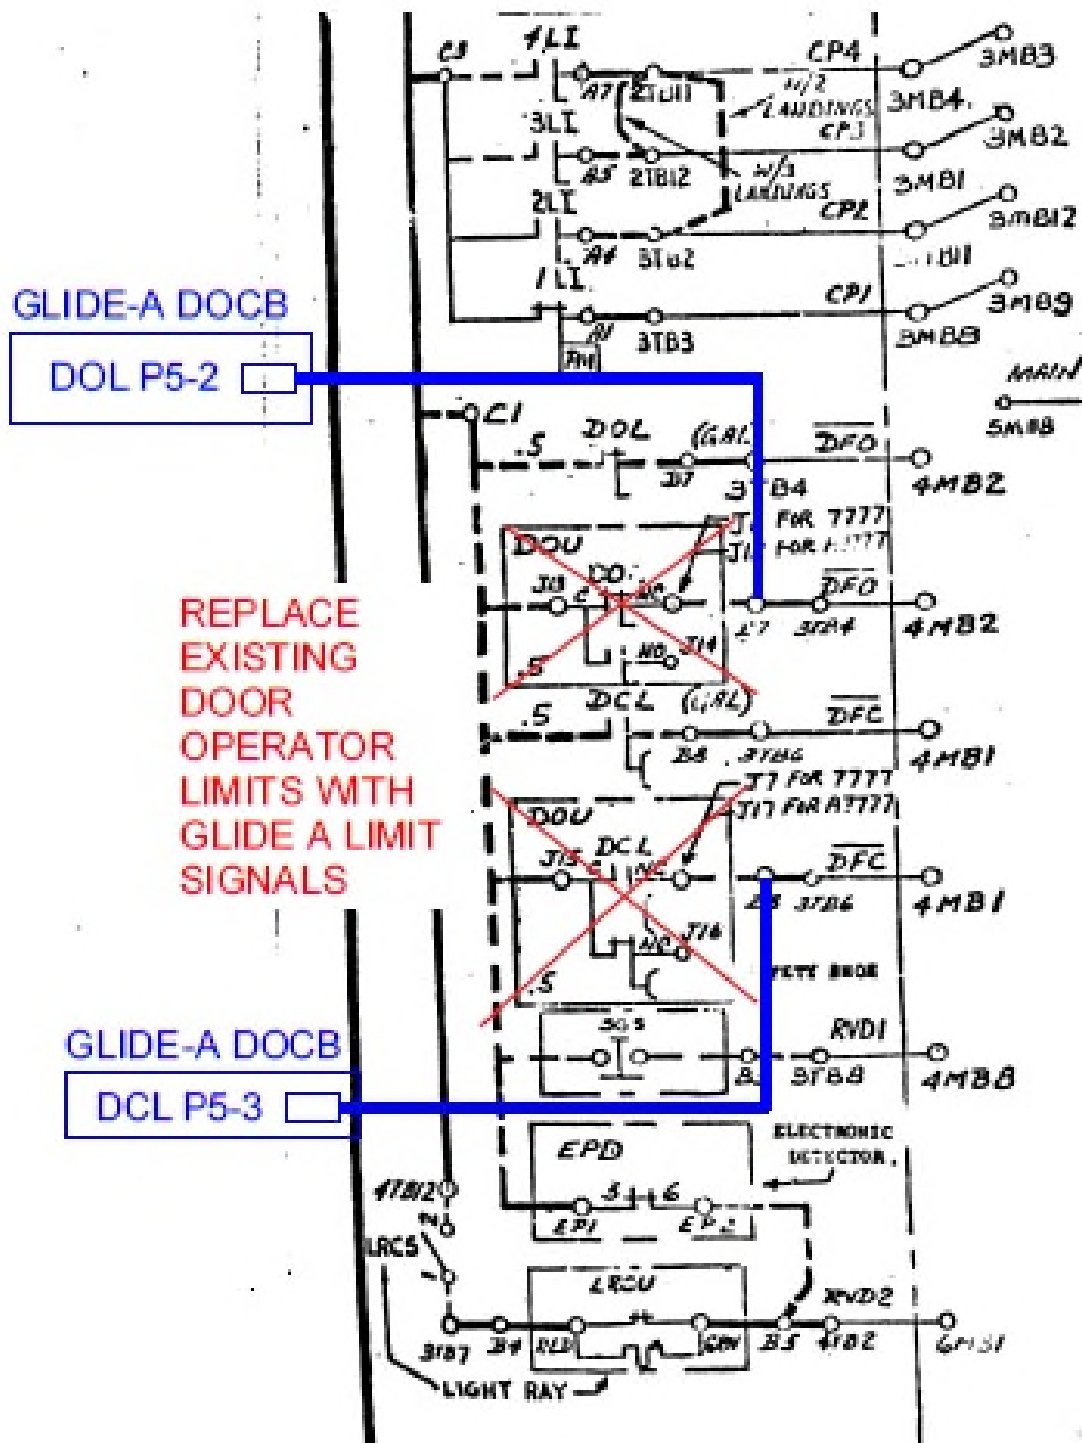

Figure 9: Area 4 of W/D 8-1S7900AG
- **Area 4:** Replacement of existing door operator limits circuits and replacement with Glide A limits. Figure 9